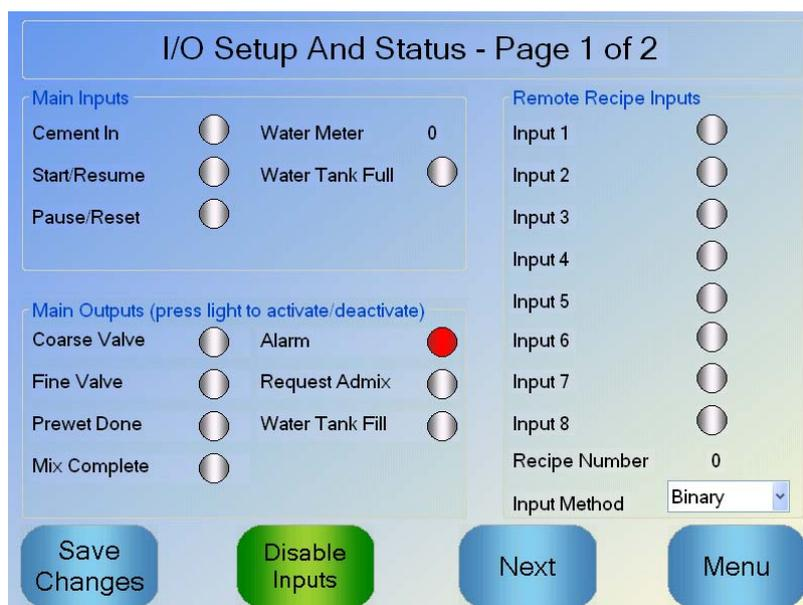

Figure 30: Page 1 of the I/O setup and status screen
Alarms can be enabled, disabled and configured from page 2 of the System Parameters as shown in Figure 29. When troubleshooting alarms, the wiring connections and any related OPTO Input and Output modules should be checked to make sure that they are not the cause of the fault. Inputs and Outputs can be checked using the I/O Setup And Status screen as shown in Figure 30.
- The water meter operation. To check the input go to the I/O setup screen shown in Figure 30 and ensure that the water meter counter increments when the water valves are opened.